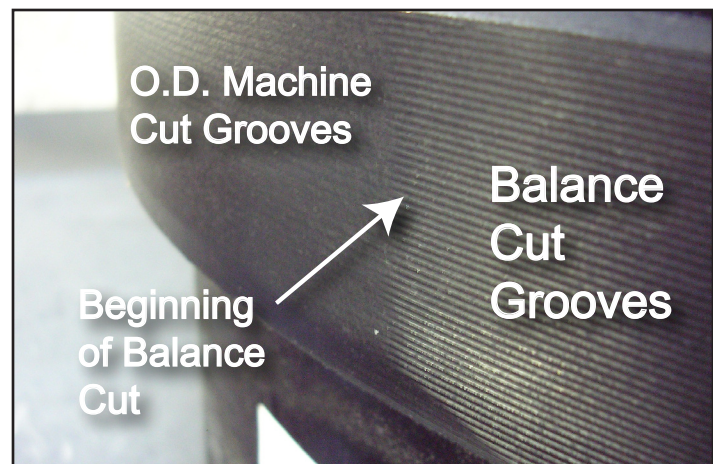

Figure 2. - Visible transition in tool marks
1. Transition between finishing cut marks and balancing cut marks (Figure 2)